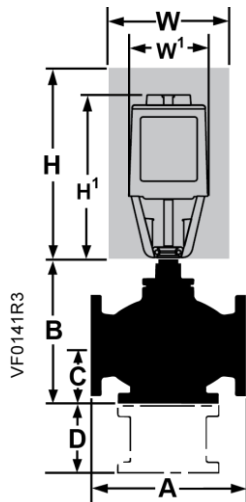

Figure 5.
- For flange dimensions and bolt hole information, see *Cast Iron Flange Dimensions for 2-1/2 through 6-inch Valves Technical Bulletin* (140-0038 [TB 248]. Allow sufficient space for servicing the valve and actuator. See Table 12 for valve body dimensions. See Table 11 and Figure 5 for dimensions of the service envelope recommended around the actuator.
The letters in Figure 5 refer to actuator and service envelope dimensions in Table 11. See Table 12 for valve body dimensions.